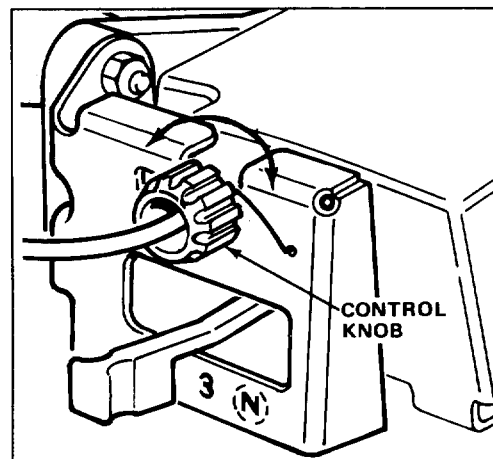

Figure 18
2. ADJUSTMENT (Fig. 18)—Rotate control knob clockwise 1/2 turn if mower does not self-propel. If mower creeps forward, rotate knob 1/2 turn counter-clockwise to loosen belt.